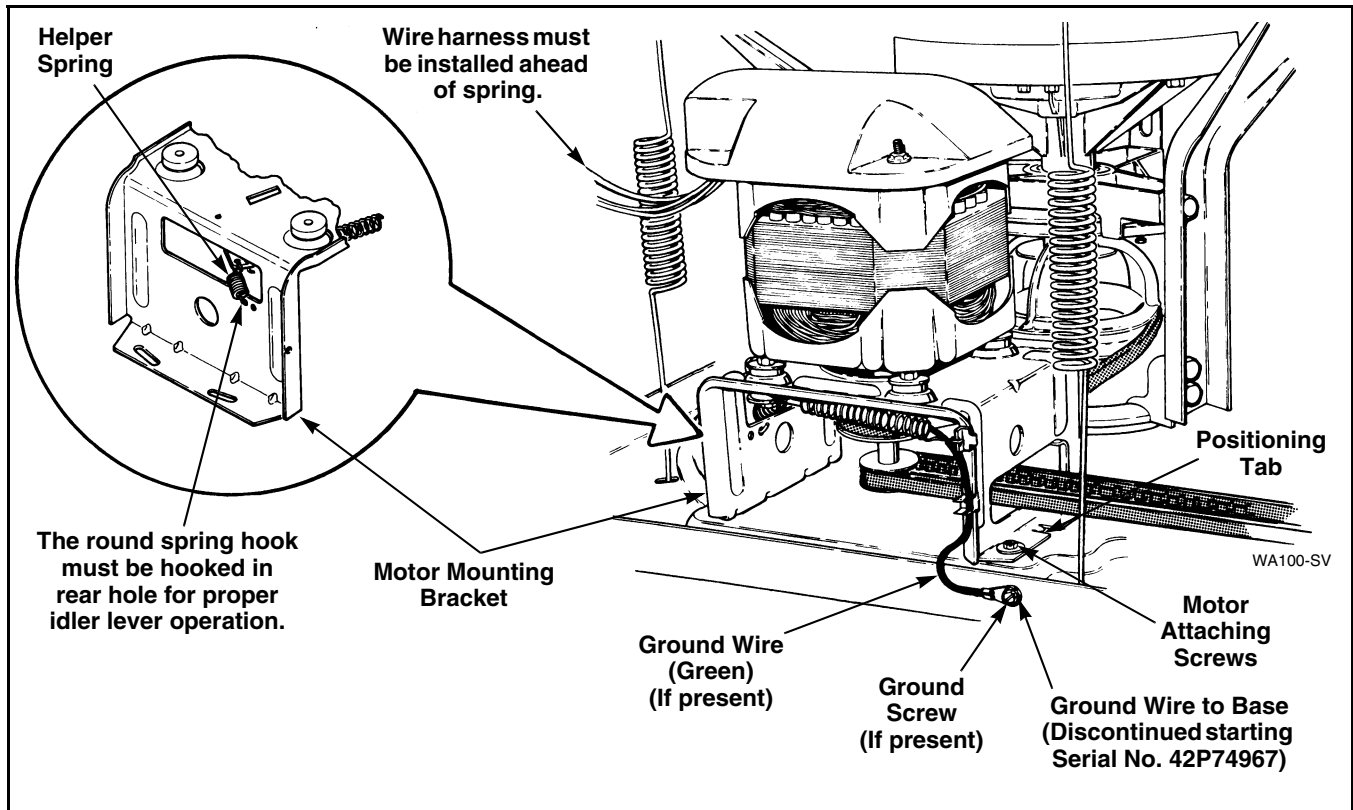

Figure 19
- e. Remove four screws holding motor and mounting bracket to washer base. Refer to *Figure 19*. Then lift complete assembly out of washer.